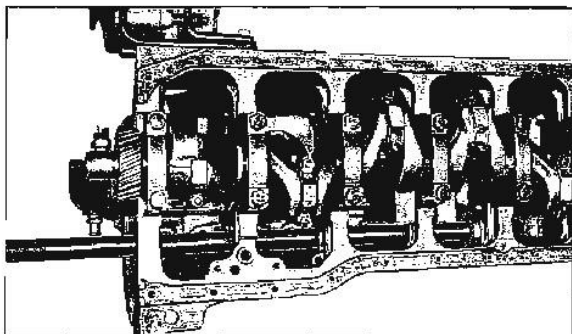

Fig. 6-46 Removing Center Camshaft Bearings
3. Install extension J-21054 on installer J-21473-1 and drive center two bearings out toward rear (Fig. 6-46).